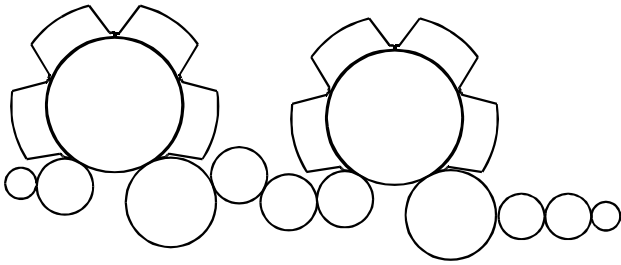

Figure 12. Lightweight CARDMASTER®-Top Tandem Nonwovens Card
*The Lightweight CARDMASTER®-Top Tandem Nonwovens Card.* This type of card is designed with a feed roll/feed plate and a single lickerin (Figure 12). The lickerin combs the fiber against the feed plate prior to the breaker cylinder. Stationary plates cover two-thirds of the cylinder to provide it with a surface against which to comb. Fiber leaving the cylinder is distributed onto the surface of a breaker doffer. To achieve better opening and uniformity, a finisher lickerin, cylinder, and doffer are positioned in tandem to the breaker section. This configuration can provide a uniform, light- to medium-weight cotton web suitable for nonwovens end products.